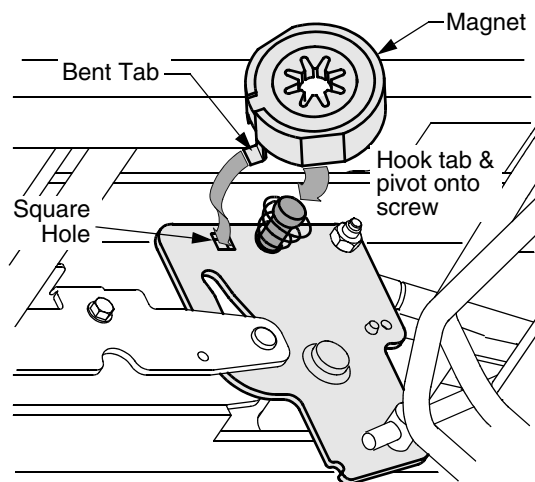

Figure 7
- Hook the bent tab of the magnet (Ref. 2) into the square hole of the pedal shaft plate and pivot the magnet onto the special screw (See Figure 7). Push the magnet onto the screw so that the bent tab is behind the plate and retains the magnet on the screw.